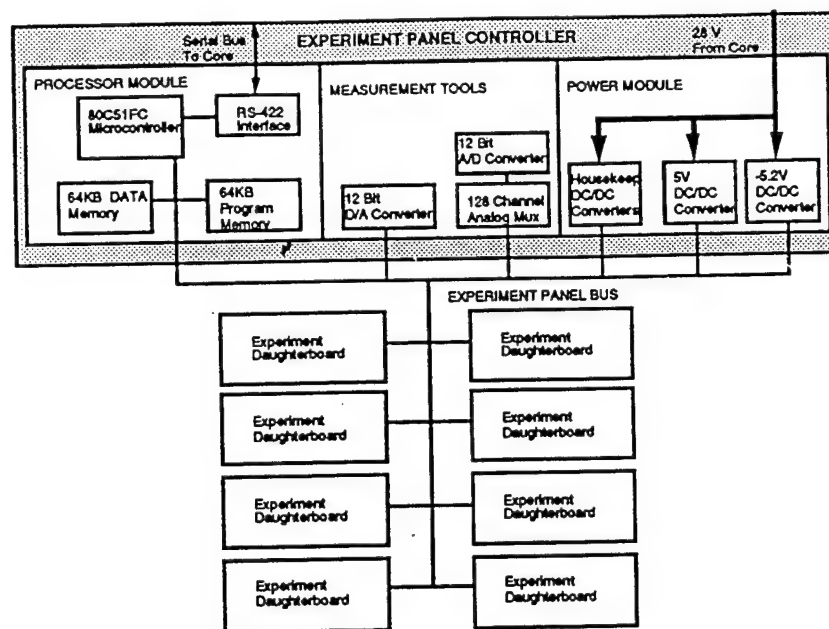

Figure 2 - Experiment Panel Block Diagram
1.3.2 Experiment Panel Description. An experiment panel consists of an 80C51 microcontroller, analog measurement tools, power supplies, and up to eight daughterboards as shown in Figure 2.